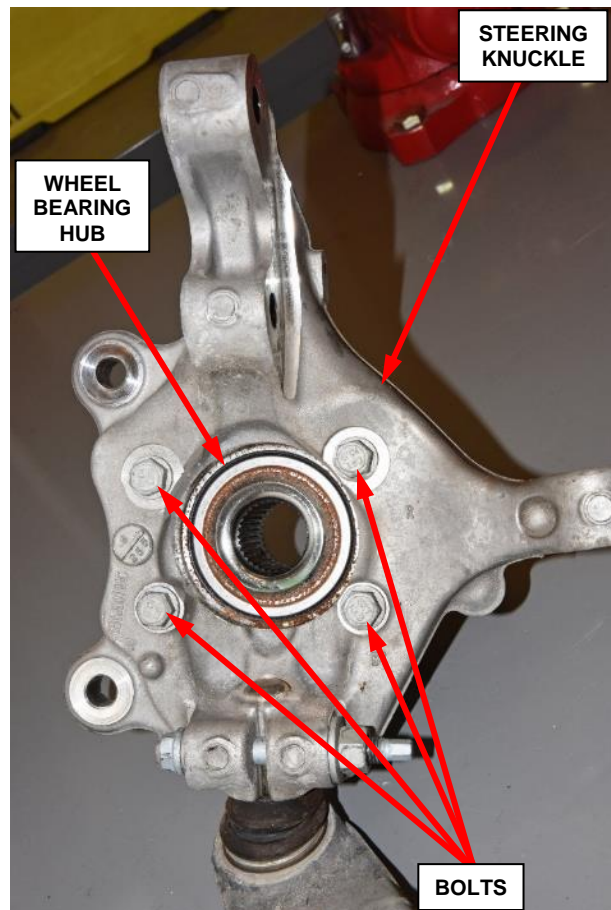

Figure 14 – Wheel Bearing Hub
19. Remove and DISCARD the four bolts securing the wheel bearing hub to the steering knuckle (Figure 14).
20. Remove and SAVE the wheel bearing hub from the steering knuckle (Figure 14).
36. Install four NEW bolts securing the wheel bearing hub to the knuckle. Tighten the bolts to 57 N·m (44 ft. lbs.) (Figure 14).